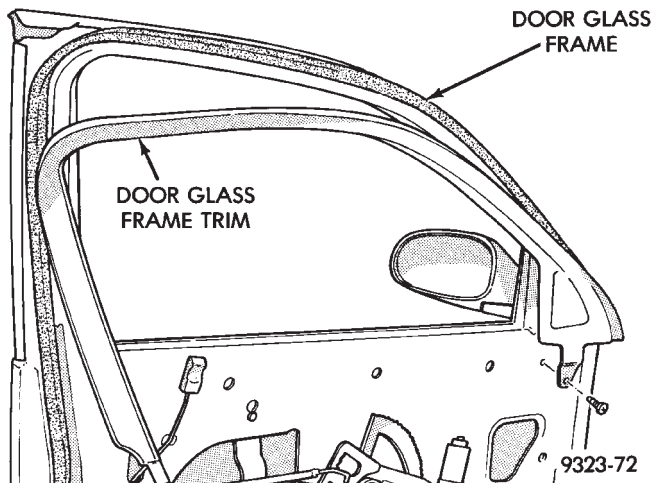

Fig. 16 Front Door Glass Frame Trim—Typical
- (1) Remove door trim panel.
- (2) Remove screw holding door glass frame trim to door pane (Fig. 16).
- (3) Separate trim from door glass frame.